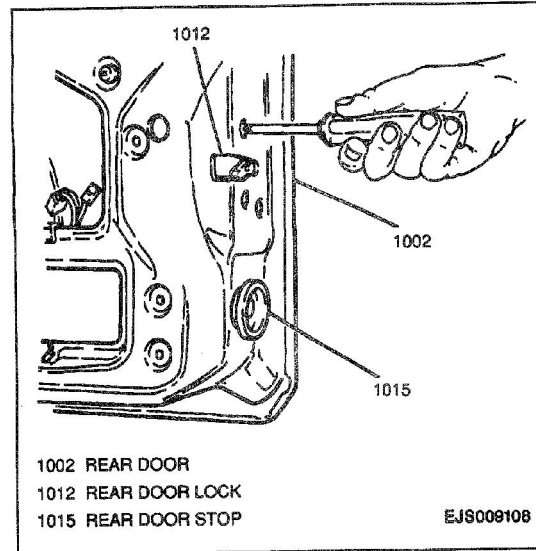

Figure 9—Removing Rear Door Lock Mounting Screws
5. Three mounting screws and rear door lock from rear door (Figure 9).